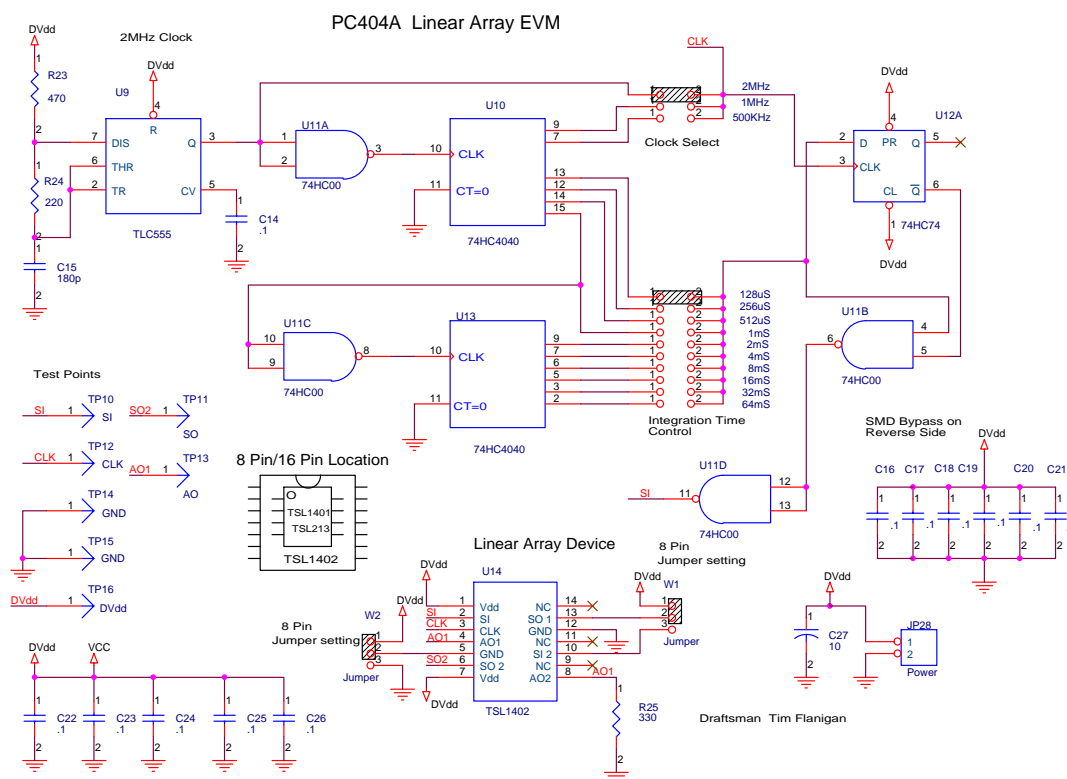
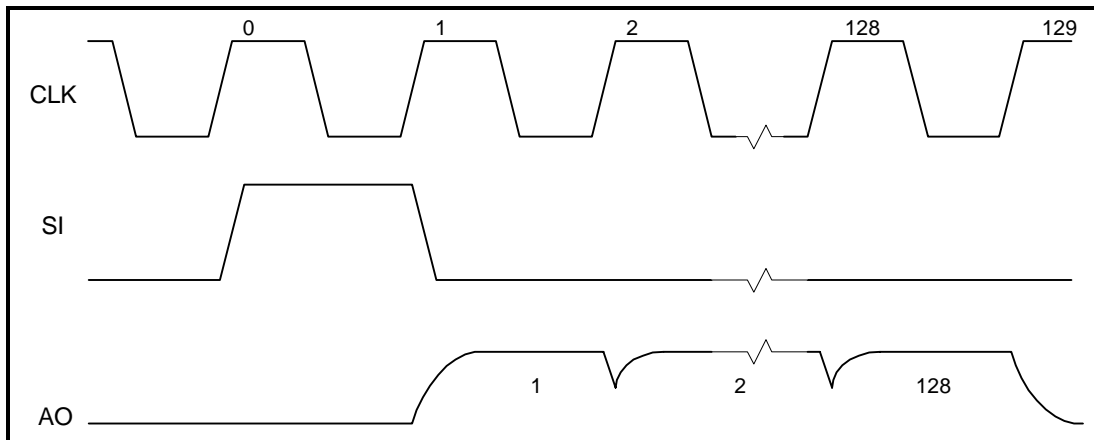

Figure 1 - PC404A Schematic Diagram
Figure 2 - System Timing (AO output for TSL1401 shown)
be selected from 2 MHz, 1 MHz and 500 kHz by moving the clock select jumper to the desired position (see Figure 1). U10, U11, and U12 generate the serial input (SI) pulse with the proper relationship to the clock (see Figure 2). The sensor integration time, defined by the time between SI clock pulses, may be selected from 128 μ S to 64mS by placing the jumper at the appropriate location.